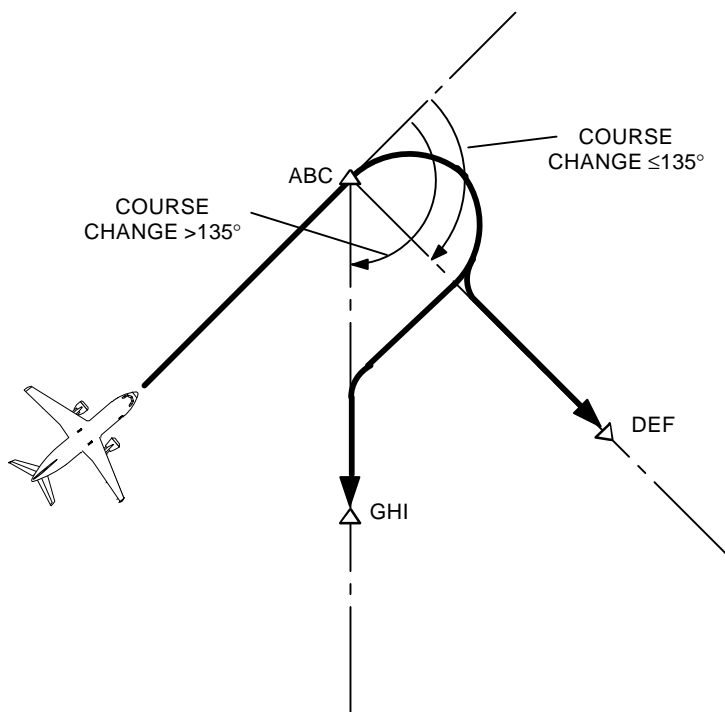

Figure 4-14 Waypoint Transition Turn Geometry Fly-Over (FO)
- Fly-over (FO) transitions, which require the aircraft to pass directly over the waypoint's geographic position (Ref Figure 4-14).